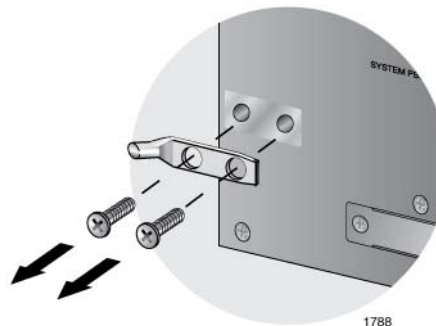

Figure 38. Removing the Grounding Lug
2. Remove the two screws that secure the grounding lug to the rear panel of the chassis, as shown in Figure 38.